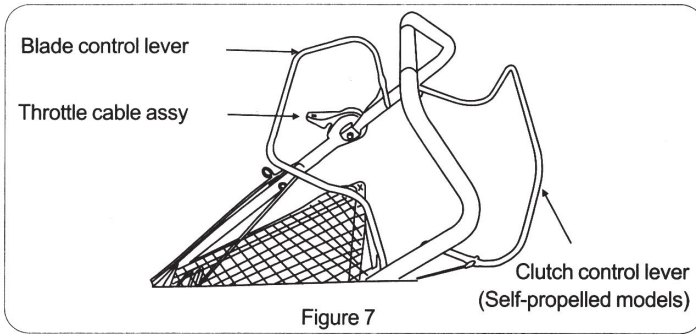

Figure 7
3. Collect the **BLADE CONTROL LEVER** (see Figure 7) braking the engine together with the upper handle and then start the engine.
4. Collect **CLUTCH CONTROL LEVER** (see Figure 7) controlling the clutch together with the upper handle and then start the engine.
5. Should change the moving direction, please release the **CLUTCH CONTROL LEVER** (see Figure 7), and then turn.
BLADE CONTROL LEVER (see Figure 7).